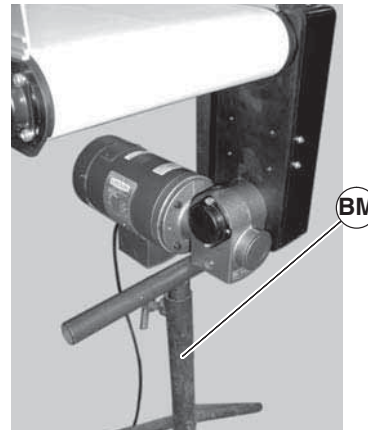

Figure 49
- a. Use a temporary support (Figure 49, item BM) to support Gearmotor.